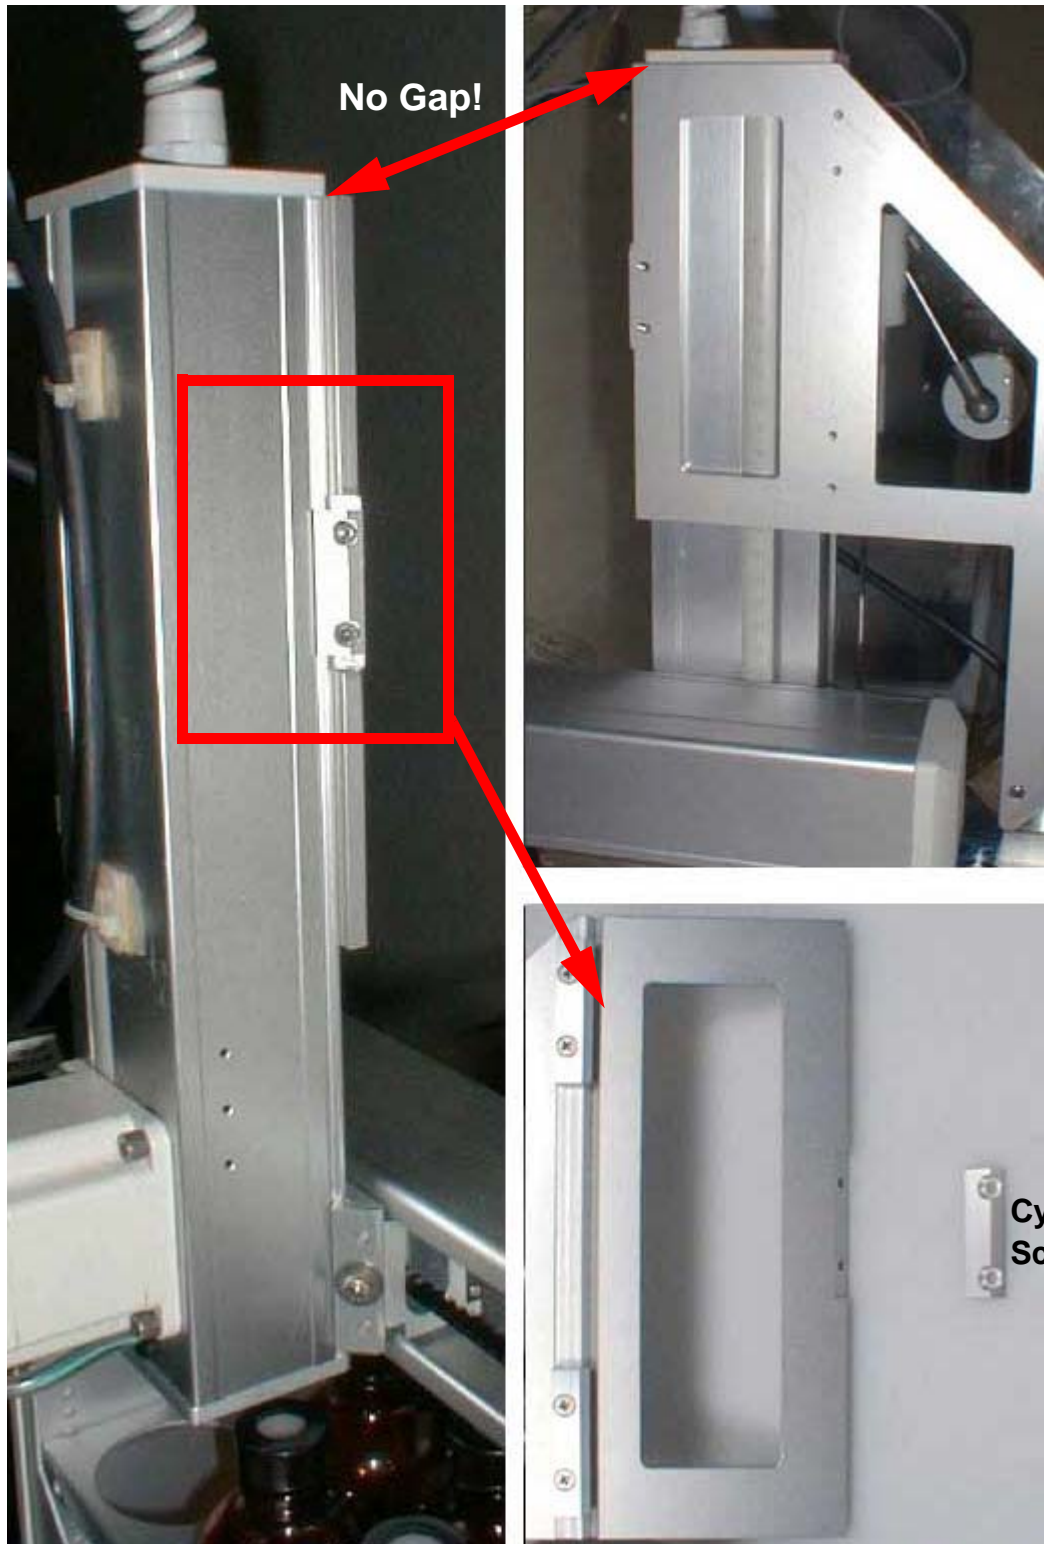

Figure 3.2: Mounting the Barcode Reader Bracket
2. Mount the barcode reader bracket on the Z-tower of the Gilson Liquid Handler using the two M3x10 cylinder screws. Ensure that you mount the bracket just under the top plate of the Z-tower cover. There should not be a gap between the Z-tower cover and the bracket (as shown in Figure 3.2).